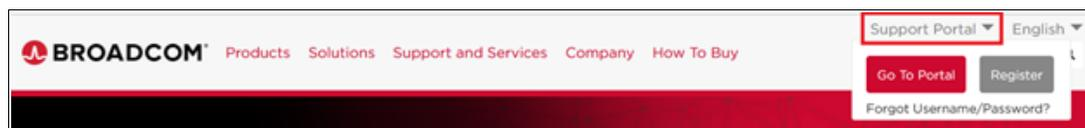

Figure 4-25 Broadcom Support Portal
1. Go to <https://www.broadcom.com>, and then select **Go to Portal** or **Register** from the drop-down Support Portal at the upper right of the web page, as show in Figure 4-25.